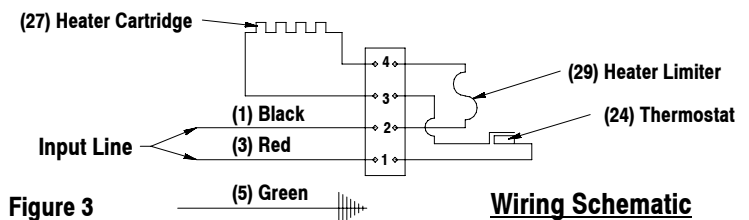

Figure 3
2. Rotate the (19) adjusting knob counterclockwise to the "off" position.
5. Remove the six (2) cap screws.
6. Remove the (16) cover.
7. Remove the two (10) machine screws and (11) lockwashers from the (15) housing, which retain the thermostat assembly.
8. Remove (as one unit) the (8) terminal block, (24) thermostat and (9) mounting plate by carefully lifting it out and removing the power lead wires (1 and 3) from the first two positions on the (8) terminal block (refer to figure 3).
9. Remove the (27) heater cartridge assembly leads from the (8) terminal block third and fourth positions.
10. Carefully finish removing the assembly by pulling the thermostat capillary tube out of the (26) fluid track body.